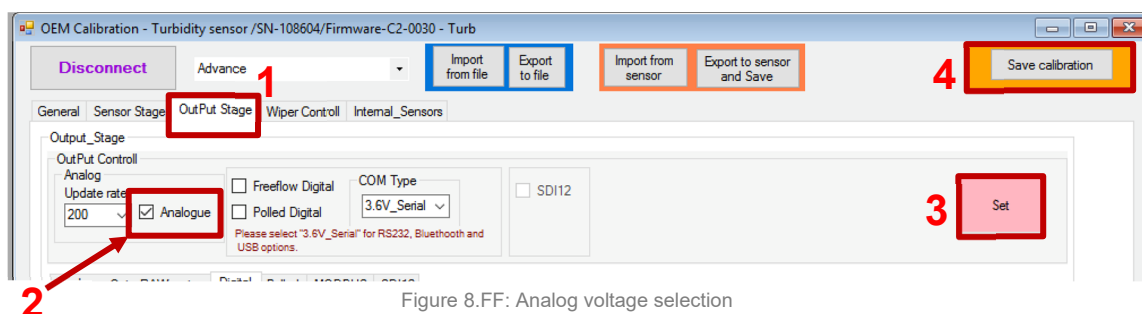

Figure 8.FF: Analog voltage selection
- Select "OutPut Stage" option (Figure 8.FF: Analog voltage selection#1).